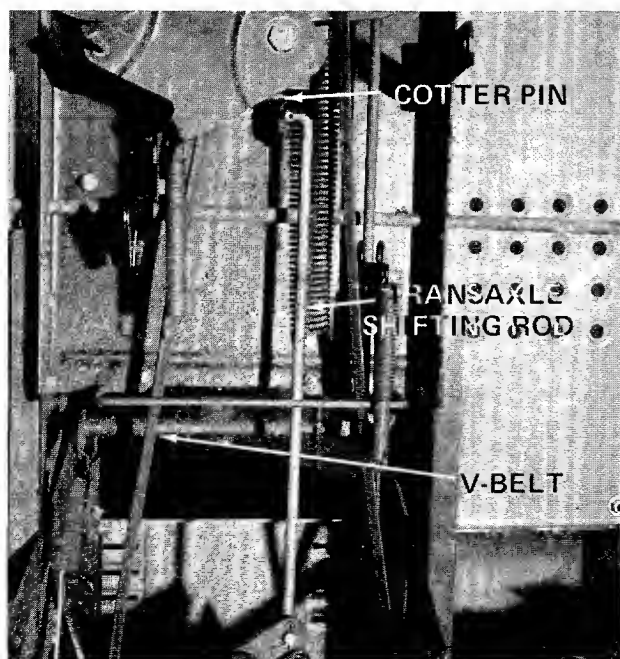

FIGURE 22.
9. Remove the cotter pin from the transaxle shifting rod and pull it out of the bracket. See figure 22.